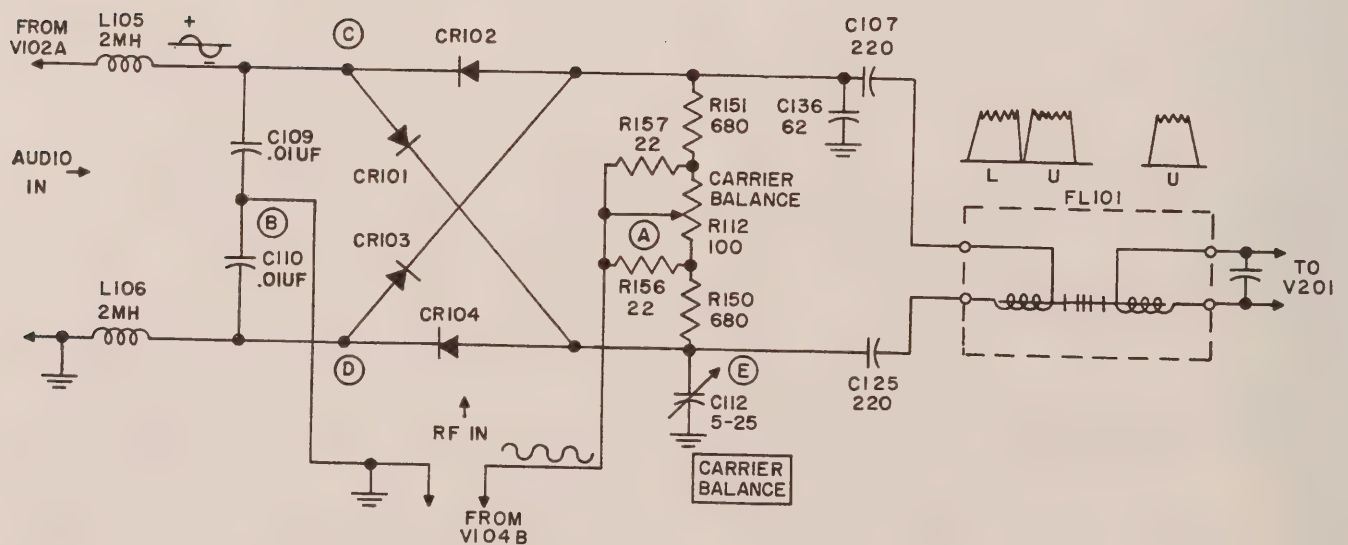
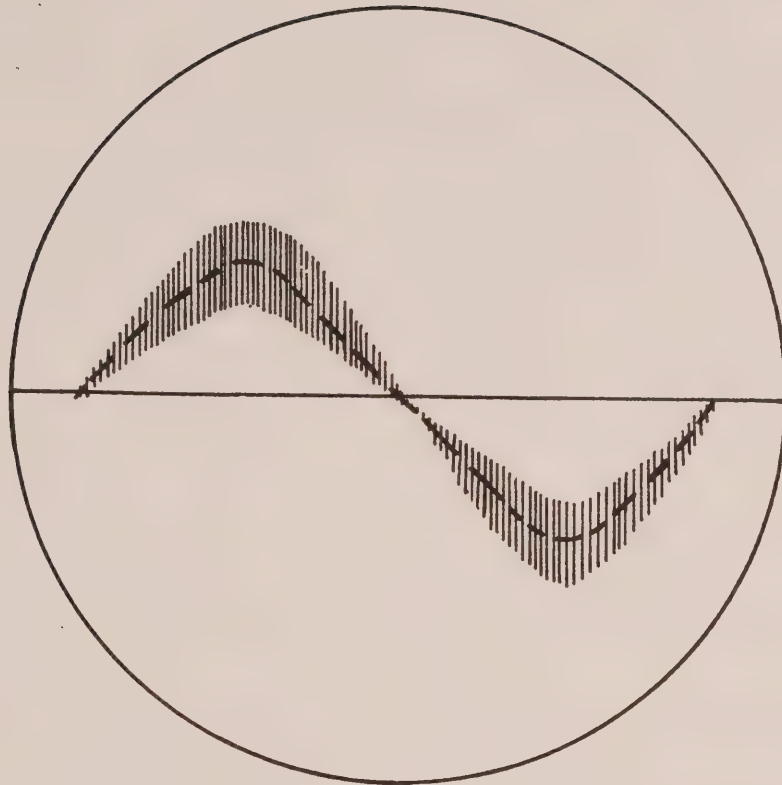
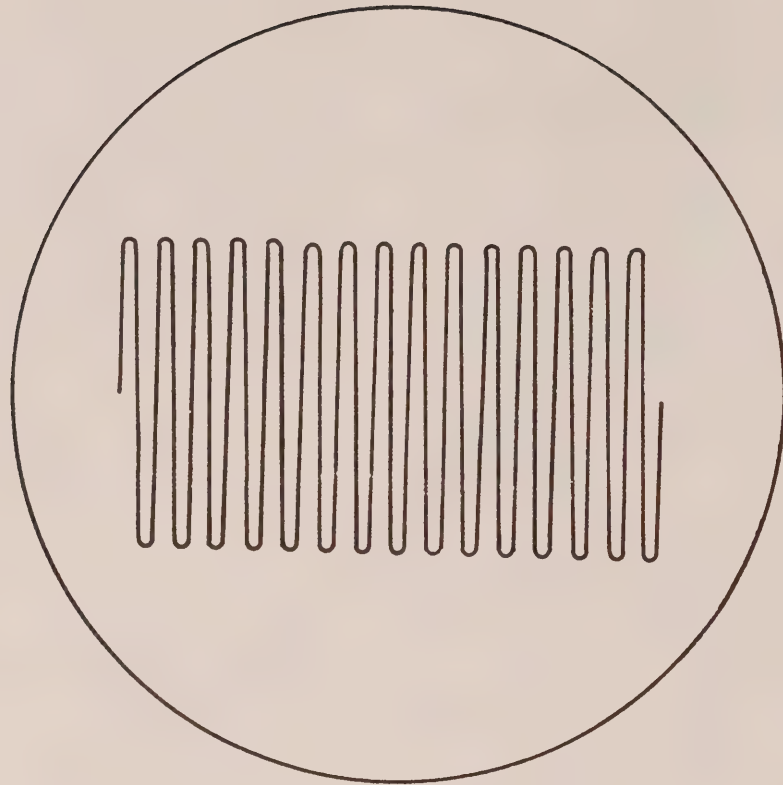

Figure 4-4. Balanced Modulator and FL101 Mechanical Filter, Simplified Schematic Diagram
Figure 4-5. Balanced Modulator Output, Typical Oscilloscope Pattern
Figure 4-7. FL101 Mechanical Filter Output, Typical Oscilloscope Pattern
(1) LFO. For the development of single sideband signals, the 250-kc output of V104A is coupled through condenser C130 into the grid of the 250-kc amplifier, V104B. The output of V104B is coupled from the cathode through L104 and C128 to point (A), and from the ground to point (B) of the balanced modulator, to provide an r-f input to the modulator. (See figure 4-4.)
(2) BALANCED MODULATOR. The balanced modulator is a "ring type" modulator. It receives two signal inputs, the 250-kc carrier signal at points (A) and (B) in figure 4-4, and the audio signal at points (C) and (D). The purpose of the modulator is to suppress the carrier frequency, and to pass only the upper and lower sideband frequencies resulting from modulation by the impressed audio. As shown by the component values, the modulator is a low impedance unit with two points of "balance"
adjustment at points (A) and (E) in figure 4-4. R112 is adjusted for voltage balance, and C112 for capacity balance of the 250-kc r-f voltages applied.
Although the ring is balanced insofar as the r-f carrier voltage is concerned, the audio input essentially "modulates" the carrier by causing unbalance of the ring voltages at an audio rate, relative to the positive and negative alternations of the audio cycles. Thus, on one audio alternation, for example, the CR101 plate is biased positive, causing its impedance to be lowered, while the CR102 cathode is biased positive, causing its impedance to be increased. On the following alternation, the impedance unbalance is the opposite. Thus, the carrier is "modulated" to produce two sidebands, but the carrier is suppressed by the ring balancing action. Assuming a 1000 cps audio note, the modulator output at the input of FL101 would be sideband frequencies of 249 kc and 251 kc, with the 250 kc carrier suppressed. (See figure 4-4.) R112 is adjusted to balance the inherent variations in R150 and R151.
Although figure 4-4 shows the modulator output in a practical "U and L" manner, the actual output waveform, when viewed on an oscilloscope, would be similar to figure 4-5, representing the 249-kc and 251-kc sideband signal plus the audio of the example stated in the preceding paragraph.
Within the filter, a nickel wire in the input transducer coil vibrates mechanically and transmits this energy to the first of a series of nickel alloy discs. The mechanical vibration of the first disc is coupled to succeeding discs by means of nickel-wire coupling elements. Biasing magnets at either end of the filter polarize the filter elements to prevent frequency doubling in much the same manner as biasing magnets in a headphone prevent the phone diaphragm from bending the same direction for both alternations of an a-c cycle. The mechanical vibration of the last disc is coupled to a magnetostriction transducer element identical to the one used at the input of the filter. By a reverse principle of magnetostriction, the mechanical vibrations of the nickel-wire transducer core is converted to electrical impulses. Each of the discs used has a mechanically resonant "Q" exceeding 2000. Six of the discs are overcoupled to produce a mechanically-shaped response curve with a flat top and almost vertical sides. Thus the filter passes a band of frequencies very little wider than the flat top of the selectivity curve. In the case of FL101 Mechanical Filter, this band of frequencies is approximately 3 kc wide and centers on 250 kcs. Figure 4-4 shows a practical example of the FL101 Mechanical Filter output wave containing all the USB frequencies however, on an oscilloscope, the wave shape would be that of figure 4-7, with a single r-f frequency when a single audio tone is applied to the balanced modulator, but actually contains the upper or lower sideband output of the modulator.